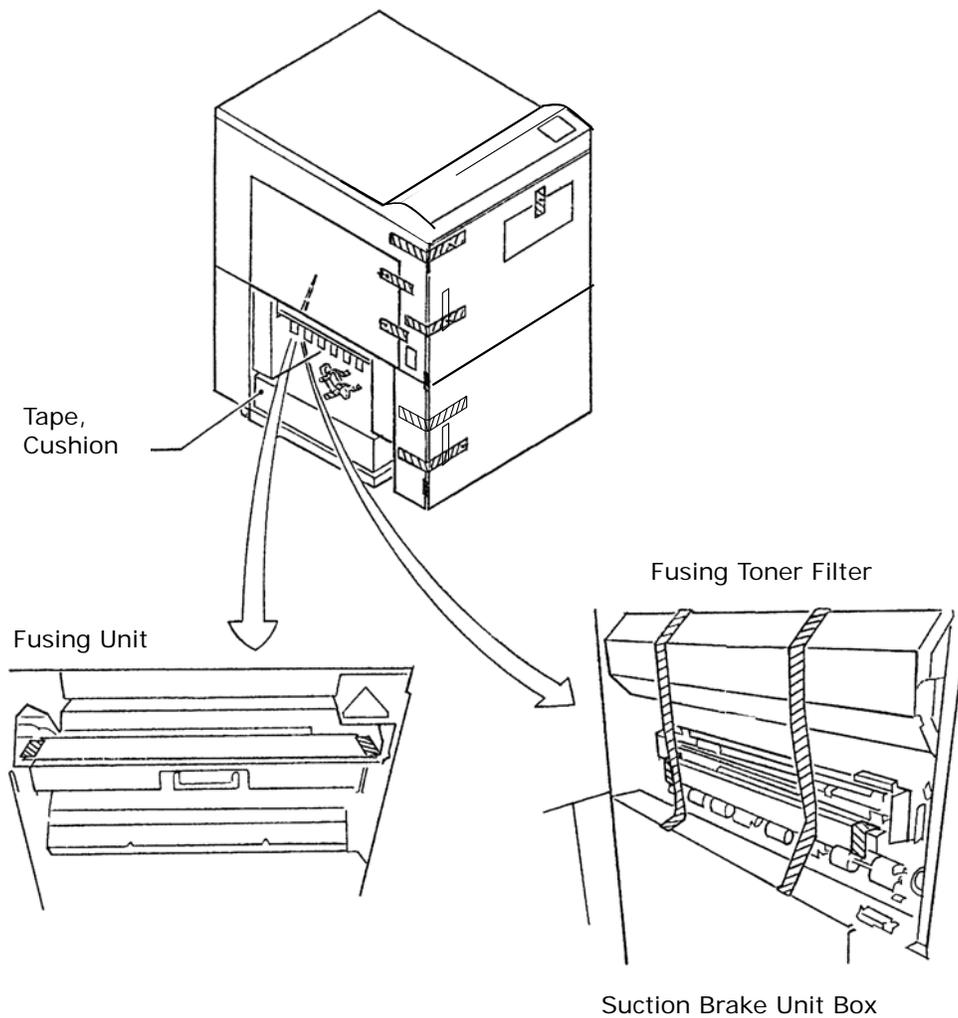

Figure 2-7
- Open the left door as shown in Figure 2-7.
9. Open the fuser lamp assembly (2) screws.
10. Remove the shipping cushion on the fuser glass as shown in Figure 2-7.
11. Remove the tape holding the Fuser Toner Filter and Exit Rollers (Figure 2-7).